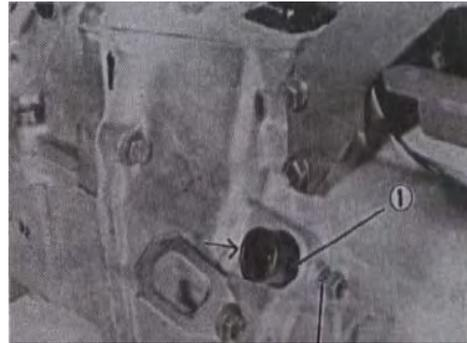

Fig.10-94
- (8) apply grease (GREASE 201) to speed meter driven gear and inside of its case. Install speed meter driven gear and case with driven gear case hole ① and extension case bolt hole ② aligned as shown in FIG.10-94